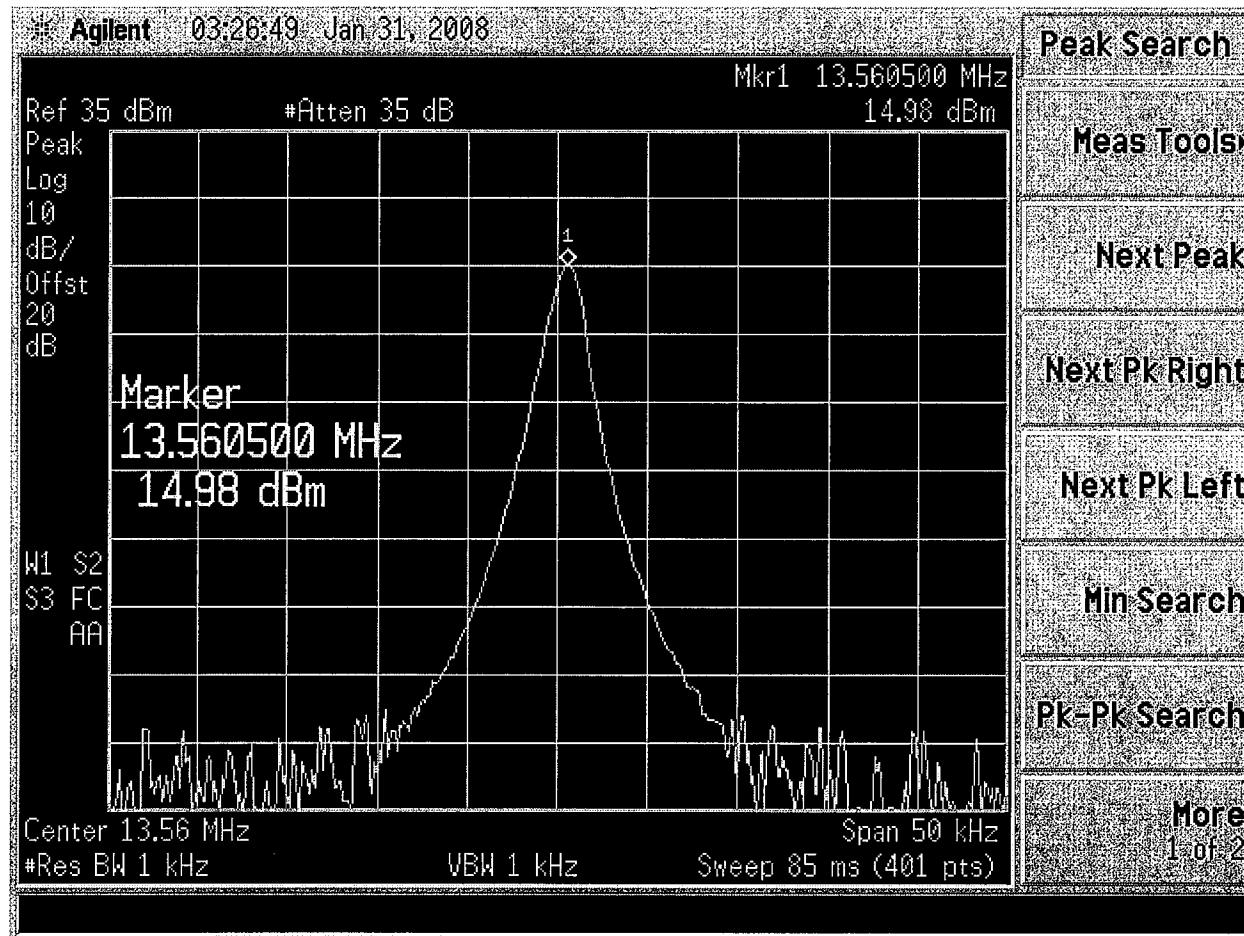

Figure 7
- 9.4.6 Verify that there is a signal present on the spectrum analyzer similar to the one shown in Figure 7. **Amplitude should be within a +/- 2 dB at this point.**